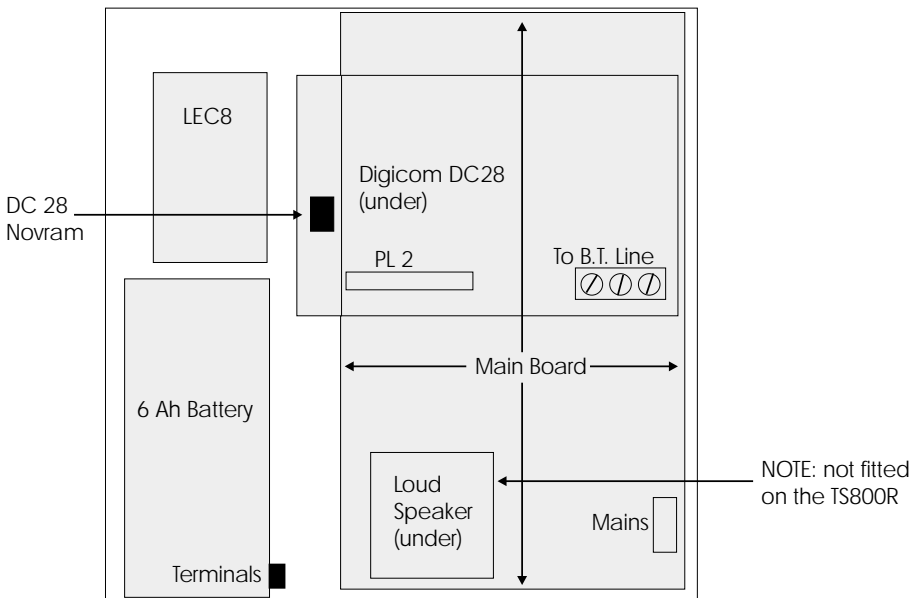

Fig 1 TS800 Panel Layout
- (1) Fit the four posts supplied to the LEC8 PCB then position the LEC in the base and secure it by pushing the posts into the holes provided (Fig 1);